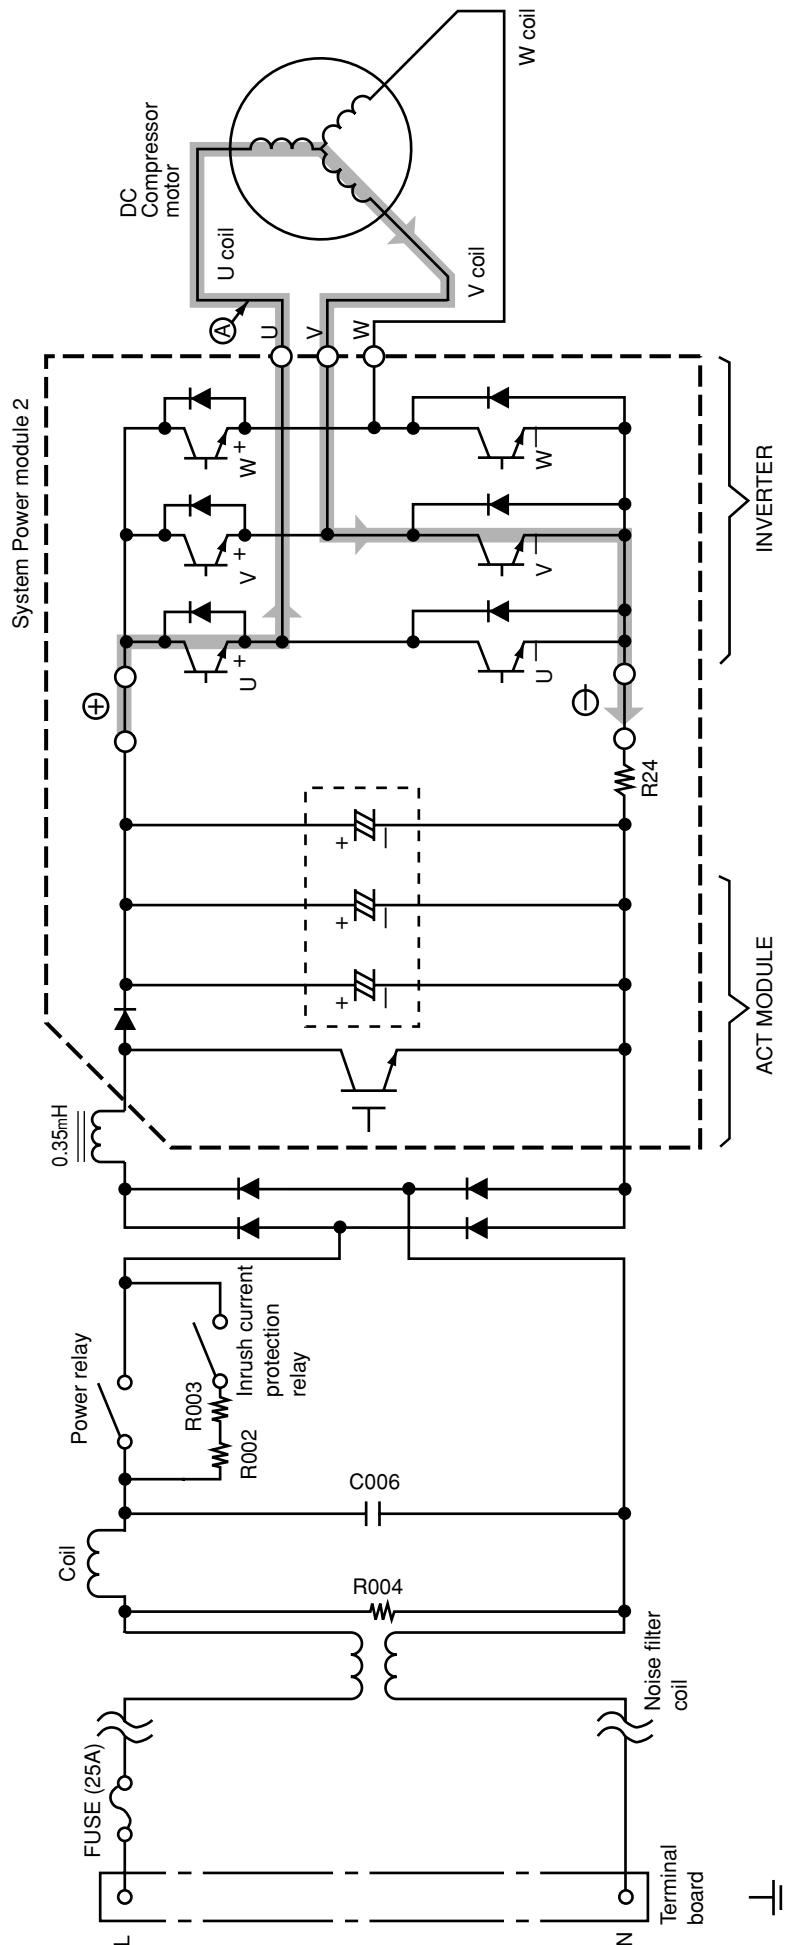
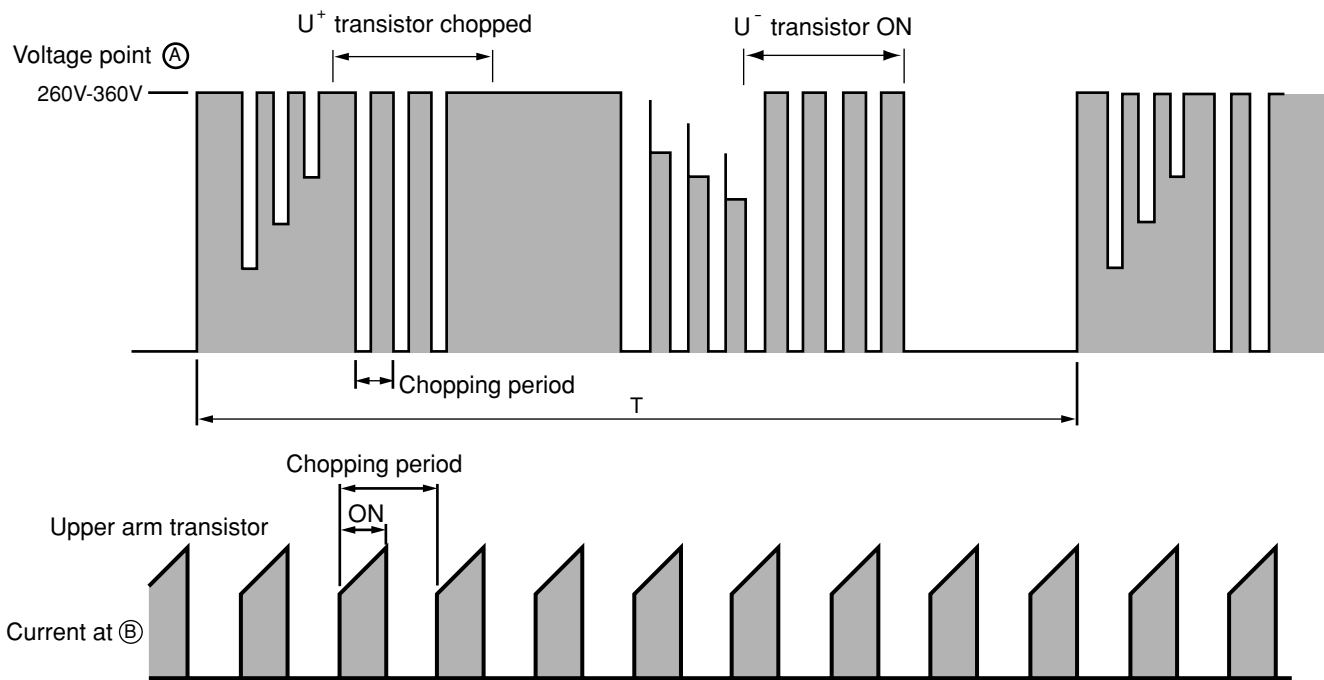

Fig. 3-1 System power module circuit (U⁺ is ON, V⁻ is ON)
Fig. 3-3 Voltage waveform at each point
- Fig. 3-1 shows the system power module and its peripheral circuit. (Current ACT module and power module are combined into one unit.) The three transistors on the positive ⊕ side are called the upper arm, and the three transistors on the negative ⊖ side, the lower arm.
- Fig. 3-3 shows voltage/current waveform at each point shown in Figs. 3-1 and 3-4. First half of upper arm is chopper, second half is ON, and first half of lower arm is chopper, second half is ON.
- When power is supplied U⁺ → U⁻, because of that U⁺ is chopped, current flows as shown below; ②
- (1) When U⁺ transistor is ON: U⁺ transistor → U coil → V coil → V⁻ transistor → DC current detection resistor → Point ② (Fig. 3-1)
- Since current flows at point (B) only when U^+ transistor is ON, the current waveform at point (B) becomes intermittent waveform as shown in Fig. 3-3. Since current at point (B) is approximately proportional to the input current of the air conditioner, input current is controlled by using DC current (I_d) detection resistor.